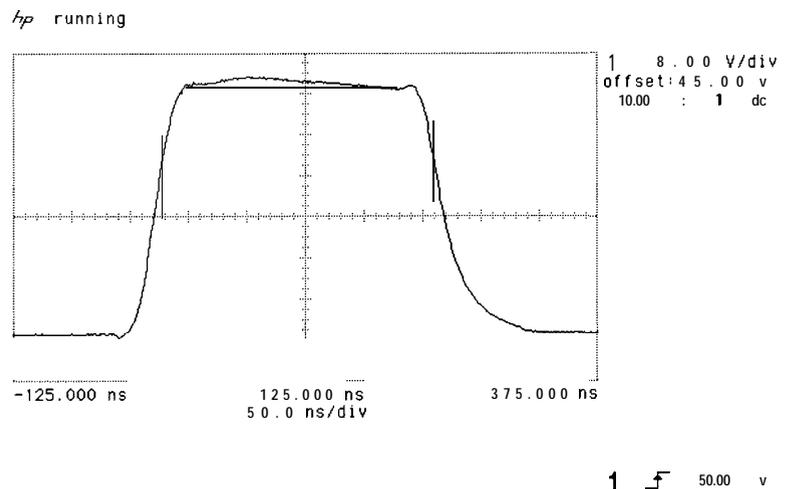

Figure 3-22. 50V_{p-p} Signal
30. Adjust the spectrum analyzer's front-panel INTENSITY control for 50V peak-to-peak (8 divisions) as indicated on the oscilloscope. See Figure 3-22.